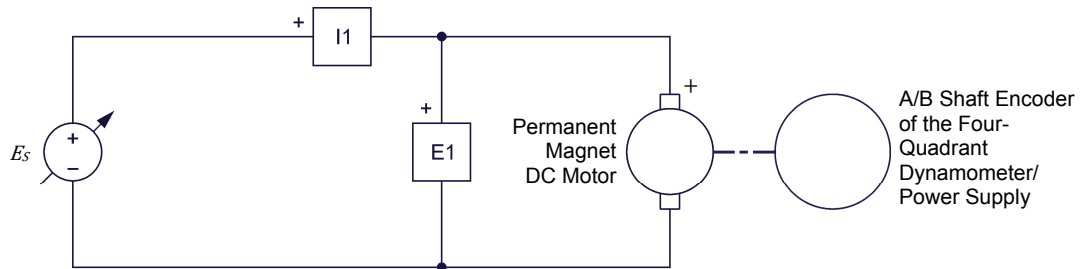

Figure 45. Setup used to plot the speed-versus-voltage characteristic of a permanent magnet dc motor operating as a motor.
6. Connect the equipment as shown in Figure 45. In this circuit, E_S is a positive dc voltage source implemented with the Four-Quadrant Dynamometer/Power Supply. E_1 and I_1 are voltage and current inputs of the Data Acquisition and Control Interface (DACI). The Permanent Magnet DC Motor is coupled to the Four-Quadrant Dynamometer/Power Supply with a timing belt to allow measurement of the motor rotation speed using the A/B shaft encoder in the Four-Quadrant Dynamometer/Power Supply.